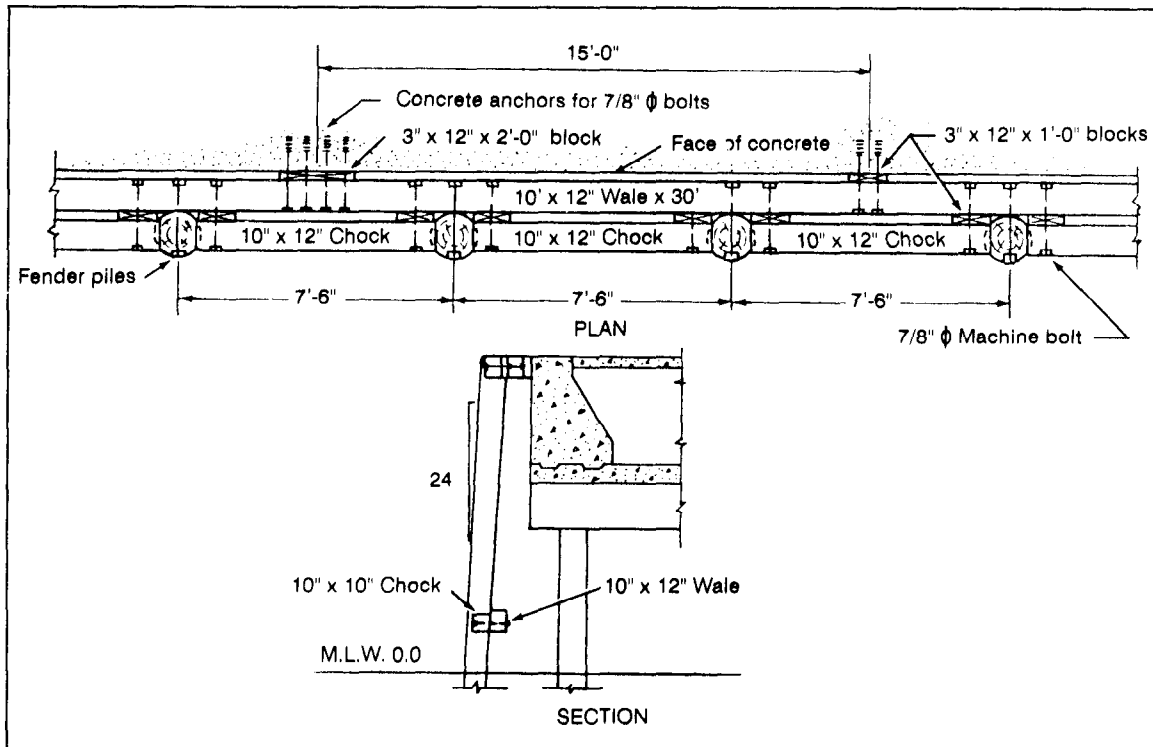

Figure 9-8. Wales
(1) A heavy replaceable timber wearing-ribbon is installed along a line of fender piles at the elevation which receives the heaviest abrasion.
(2) Floating logs or camels.
(3) Rope wrappings, particularly on corner fenders.
(4) Wales behind piling to absorb part of berthing forces during mooring (Figure 9-8).
(5) Wales in front of and behind the piling. Rear wales are connected to the wharf deck with short sections of cylindrical rubber fender. The placement of short sections makes a timber pile fender system more flexible. It can accommodate the larger berthing forces of container ships and is the most widely used type.